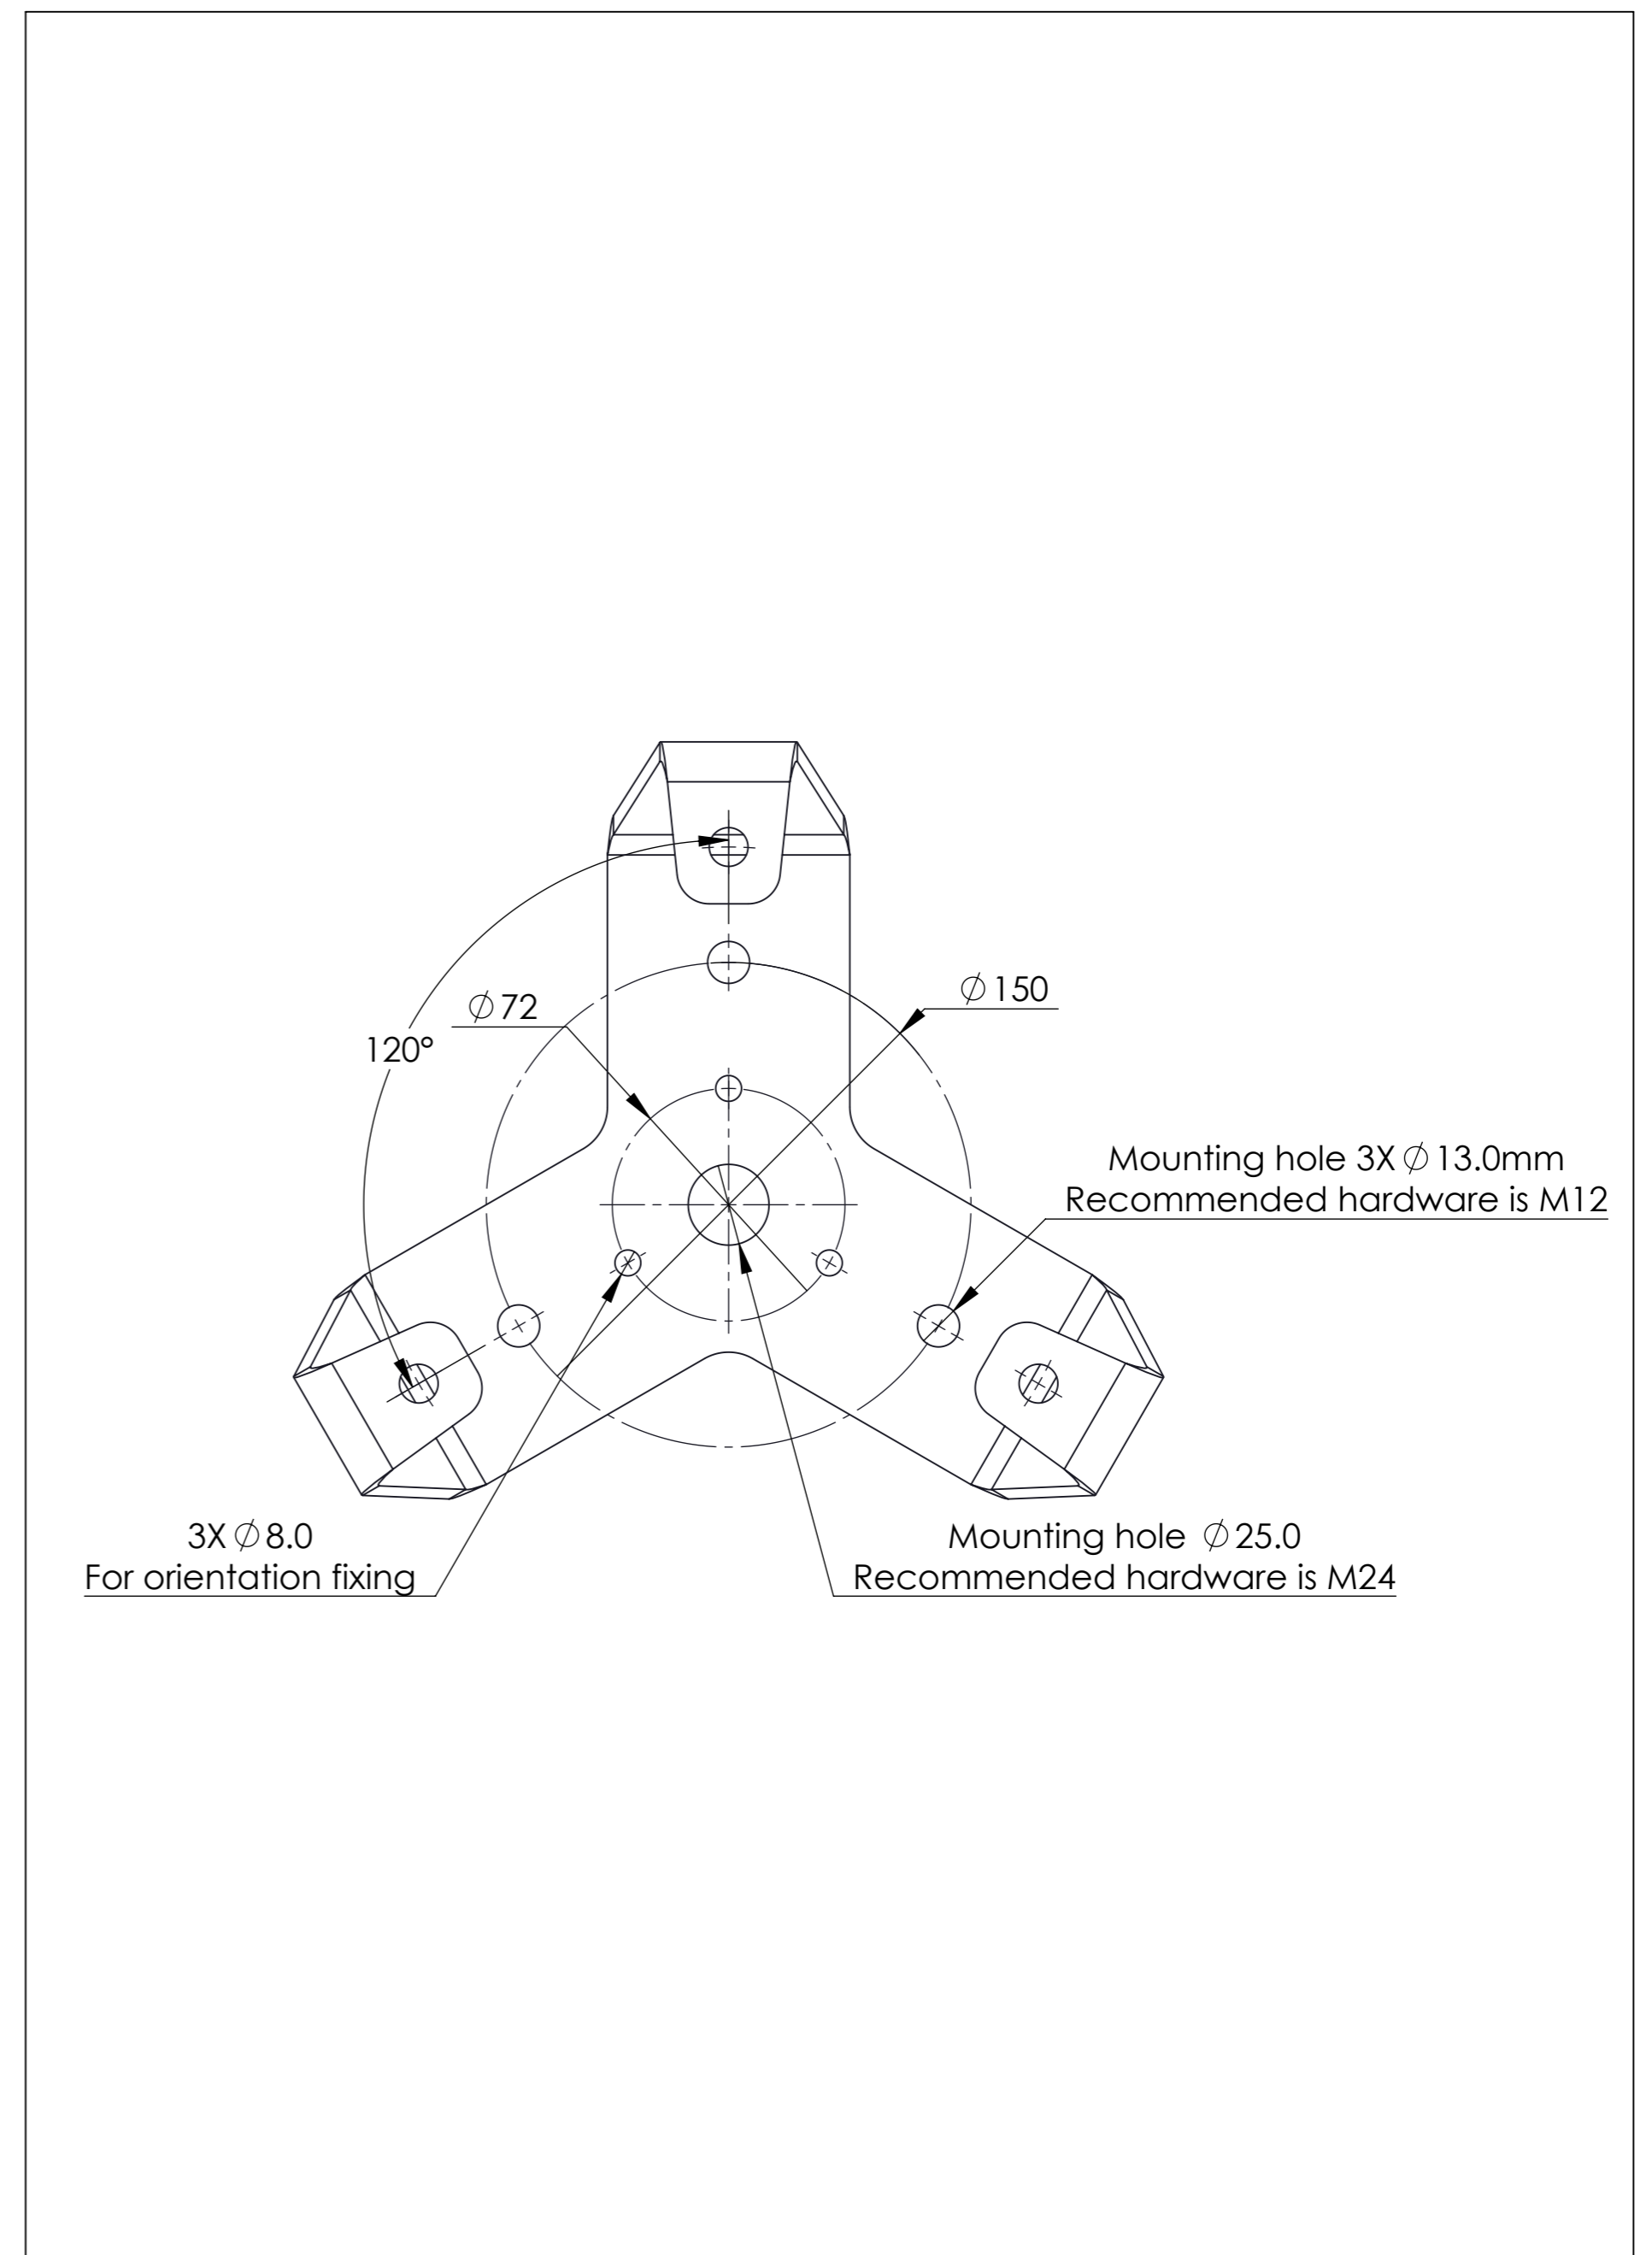

Figure 2. Mounting Interface on Bottom Mounting Bracket
1. Refer to Figures 2, 3 and 4 for mounting and bore-site alignment. It is recommended that the mounting holes be marked and made ready in the mounting surface prior to installing the antenna.